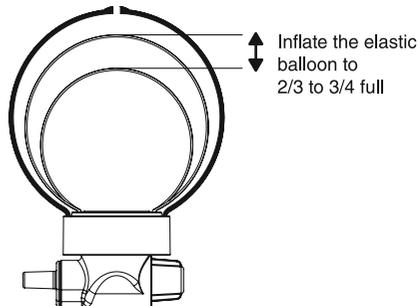

Fig. 3: Required inflation size
- The TRACOE smart Cuff Manager is not initially inflated to a pressure within the range of 20 cmH₂O to 30 cmH₂O and the inner balloon is not expanded to approximately 2/3 to 3/4 of its maximum volume (figure 3).
Once the TRACOE smart Cuff Manager is connected to the cuff inflation line, insert the cuff pressure monitor or syringe into the female Luer connection, at the base (Luer f, figure 1), and inject sufficient air to properly inflate the inner blue balloon to a diameter of 2/3 – 3/4 (figure 3) as compared to the outer housing.
Throughout the 29 days of clinical use the inner balloon of the TRACOE smart Cuff Manager may require refilling of air to maintain the 2/3 – 3/4 fill level (figure 3). To refill the inner balloon, follow the inflation procedure defined in section 8.1. If the volume of the balloon is too low, the cuff pressure may be increased.